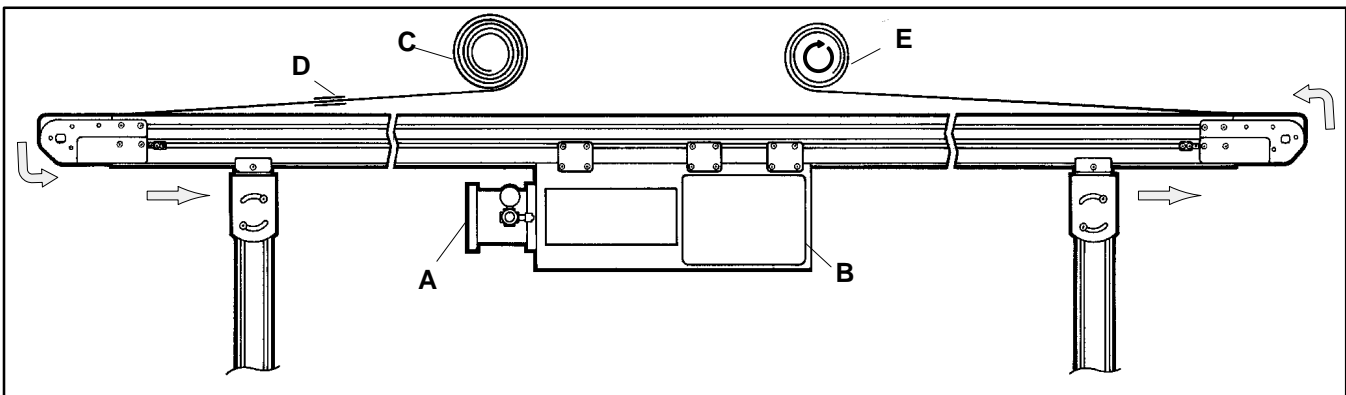
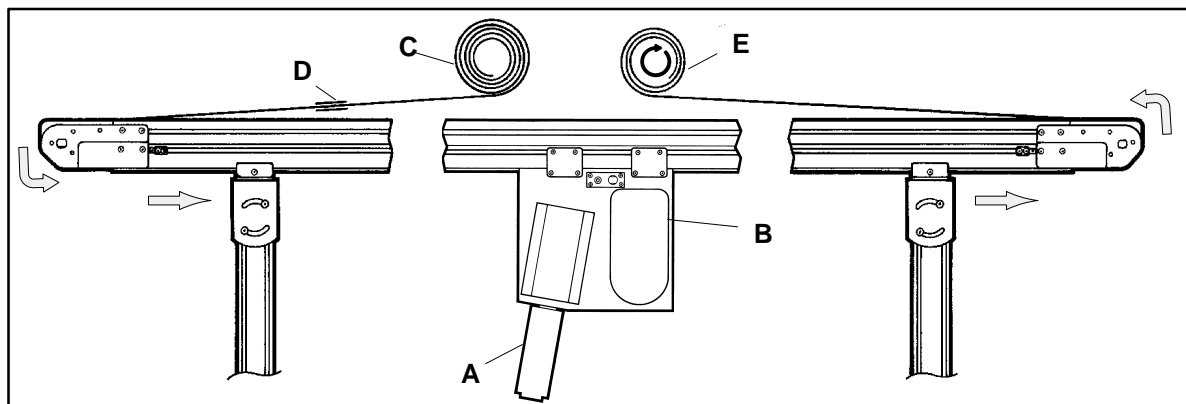
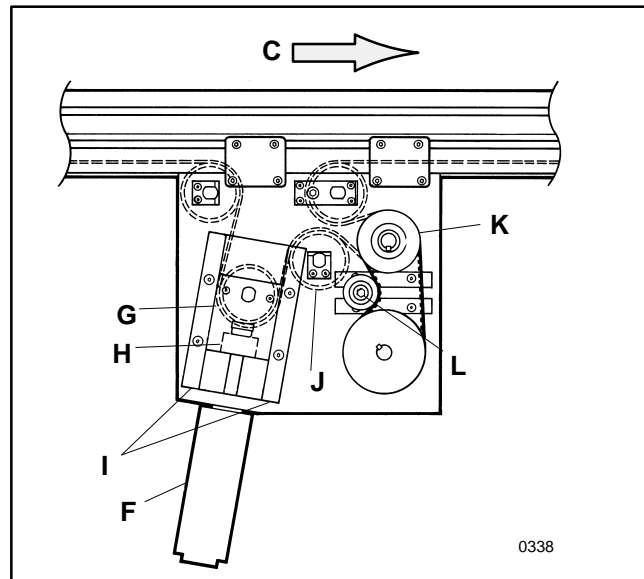

Figure 34
Figure 35
Figure 37
2. Remove air pressure from the take-up air cylinder (A of Figures 34 & 35).
4. Open the horizontal Poly-V® belt drive cover (B of Figure 34) or the vertical timing belt drive cover (B of Figure 35) and release drive belt tension. Then, remove the drive belt so the drive pulleys rotate freely.
6. Tape (D) one end of the new belt (C) to one end of the old belt (E).
5. Open the horizontal Poly-V® belt drive cover (B of Figure 34) and release drive belt tension. Then, remove the drive belt so the drive pulleys rotate freely.
11. Form a large loop with the conveyor belt inside the module and re-install the lower drive pulley (N), drive pulley shaft and the drive bearing assembly. Make sure all three elements are correctly positioned before tightly securing the bearing hardware.
12. On the appropriate side of the belt loop, replace the fixed position idler pulley (M) and pulley shaft. Re-secure the shaft by re-attaching the shaft retaining clip.
13. Replace both take-up pulleys (G) and the inner and outer take-up plate assemblies. Then, replace the two take-up guides (I). Again, make sure all elements are correctly aligned before tightly securing the take-up bar attaching hardware.
14. After the conveyor belt has been properly replaced and re-routed through the center drive module, replace the horizontal Poly-V® belt drive, restore drive belt tension and replace the drive belt cover (B of Figure 34).
1. Open the vertical timing belt drive cover (B of Figure 35) and release timing belt tension (L of Figure 37).
3. Remove the take-up pulley (G).
5. Loosen the take-up bar (H) from the bearing on one side and remove the take-up guides (I) from that same side.
7. Next, remove the center idler pulley (J) by removing the end plate from both ends of the pulley shaft and push the shaft out from the drive. Then, remove the idler pulley.
8. With the pulleys and shafts (G and J) removed, the splice fingers of the correctly oriented replacement conveyor belt can be brought into the center drive module and routed around the three remaining pulleys as shown in Figure 37.
10. Replace the take-up guides (I). Then, replace, align and secure the take-up bar (H).
11. On the appropriate side of the belt loop, replace the take-up pulley (G) and the take-up bearing locking collars, on both ends of the take-up pulley. Again, make sure all elements are correctly aligned before tightly securing the bearing locking collars.
12. After the conveyor belt has been properly replaced and re-routed through the center drive module, replace the timing belt, restore timing belt tension and replace the drive belt cover (B of Figure 35).